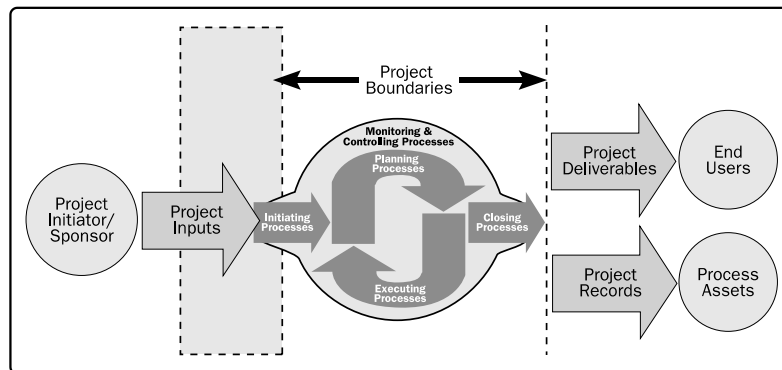

Figure 3-4. Project Boundaries
- Although the project management team may help write the project charter, this standard assumes that business case assessment, approval, and funding are handled externally to the project boundaries (Figure 3-4).